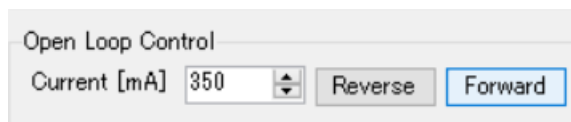

Figure 4-7 "Current [mA]" Edit Box and "Forward" Button
- (17) Set 350 to the q-axis current reference in the "Current [mA]" edit box (Figure 4-7).
- (18) Press the "Forward" button (Figure 4-7) and users can rotate the motor.